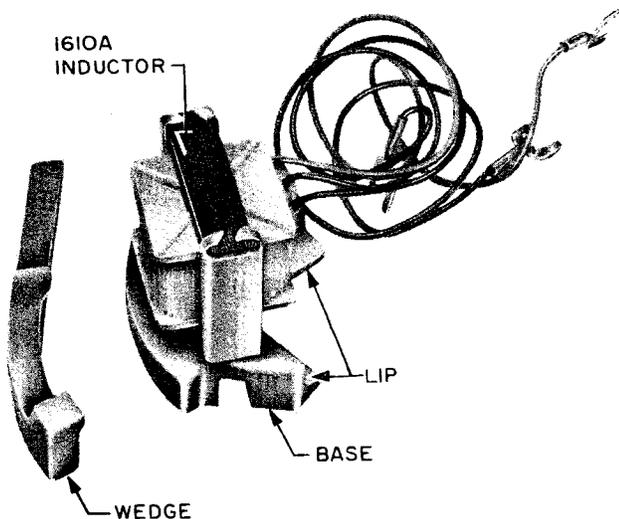

Fig. 4 – 1610A Inductor
2.07 Where no ringer is used and tip party identification is required, a 1610A or a 1635A inductor shall be installed in the PRINCESS set as shown in Fig. 4, 5, 6, and 7.